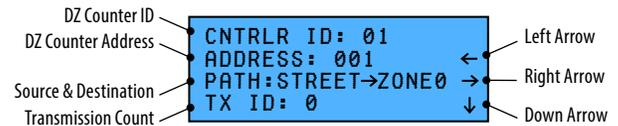

Figure 5-3. RedStorm DZ Counter Info Screen 01
- To verify communications, move the cursor down to Controllers and press <ENTER>. (refer to Figure 5-3)
DZ Counter 01. (refer to Figure 5-3) By using the left and right arrow buttons, all DZ Counters can be viewed. A line of interest is the **TX ID**. This is the transmission ID number of the current data packet. This number will increment every time there is a successful transmission to that DZ Counter. This number rolls over to 1 after it reaches 255.